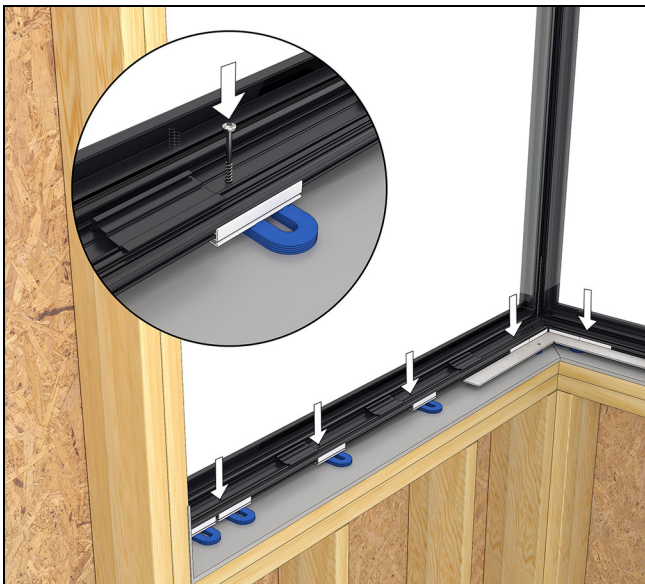

Figure 48
12. Fasten the unit through the sill, jambs, and head jamb at all fastener locations using the #10 x 3" T20 Torx head installation screws provided. See Figure 48, Figure 49 and Figure 50.